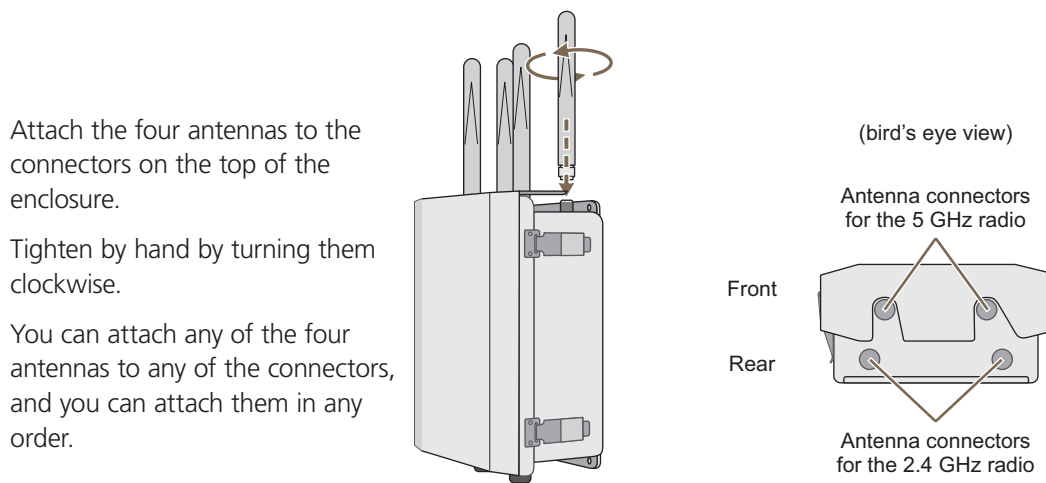

Figure 12. Attaching antennas to the enclosure.
2. Screw the antennas onto the connectors by hand, turning them clockwise until tight (see Figure 12).